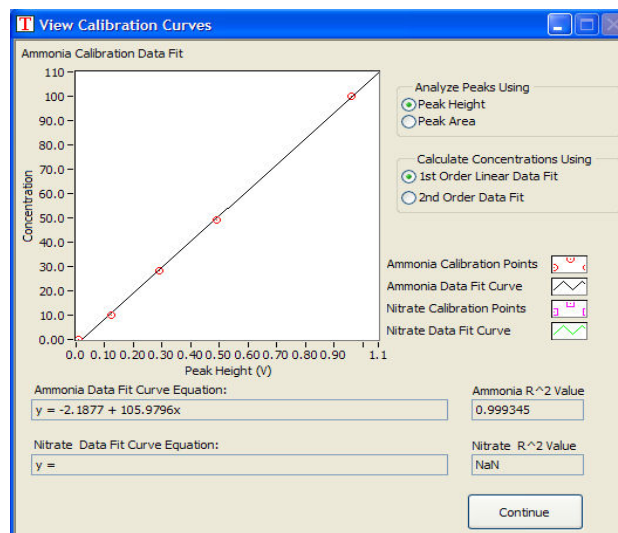

Figure 3-6: Calibration Curve Window.
- You may toggle between a linear regression data fit or second order polynomial data fit (if three or more calibration points are collected). The equation and R^2 value for the data fit are displayed. Click 'Continue' to return to the Saved Data screen. See figure 3-6.